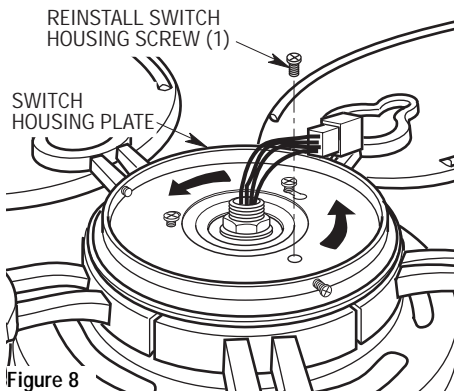

Figure 8
- 18. Place the switch housing plate onto the motor flange. Rotate the switch housing plate clockwise to engage the two loosened screws in the key hole slots. Reinstall the one screw previously removed in step 17. Securely tighten the three screws (Figure 8).